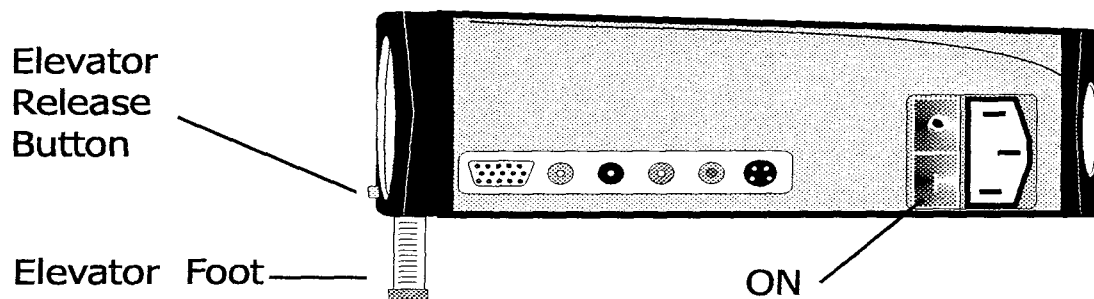

Figure 5: Quick Release Elevator
Depress the power switch (I) at the side of the projector (see Figure 5). The following will occur:
To adjust the height of the front of the projector, Lightware has provided a quick-release elevator foot under the front center of the projector. To set the appropriate image height, press the release mechanism shown in see Figure 5 and lift.